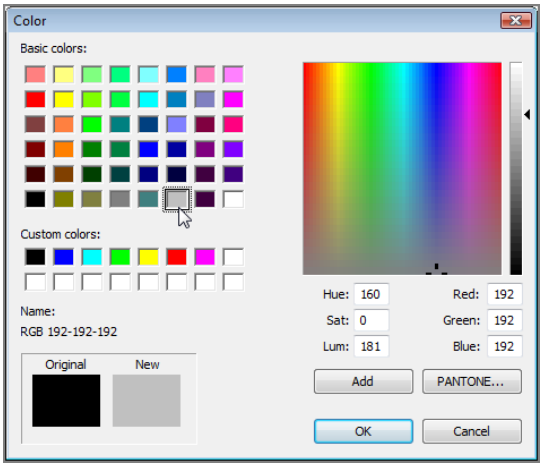

FIGURE 12.24: Selecting the gray color (RGB 192-192-192)
9. In the Color dialog box, click the Gray tile, as shown in Figure 12.24. (The color is actually RGB 192-192-192.)